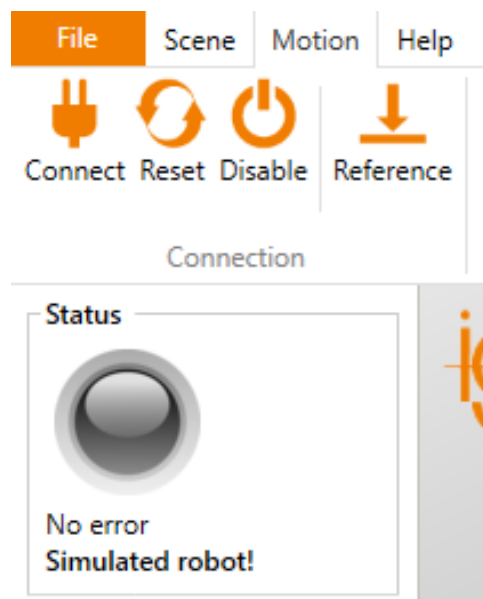

Figure 6: Buttons for connecting to the hardware, resetting errors and activating the motors, referencing and "Status" display.
The real robot can be controlled in the same way as the simulated one, only the hardware must first be connected and activated by clicking the "Connect", "Reset" and "Activate" icons in the "Physical Robot" button group in the "Motion" tab (see Fig. 6). Depending on the type of robot the axes must then be referenced.
2. Press the buttons "Connect", "Reset" and "Activate" (see fig. 6).
3. Click the "Reference" button (Fig. 6) in the button group "Physical Robot" in the "Motion" tab (or "Robot Reference" in the "File" tab) to open the referencing window.